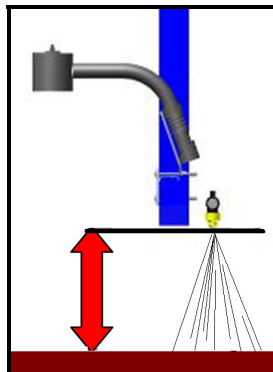

Figure 9: Measurement for Calibrating the Sensor Height
- Using a tape measure, measure the distance from the bottom of the spray nozzle to the ground (**Figure 9**). Use the spray nozzle closest to the sensor. Round this measurement to the nearest half-inch.